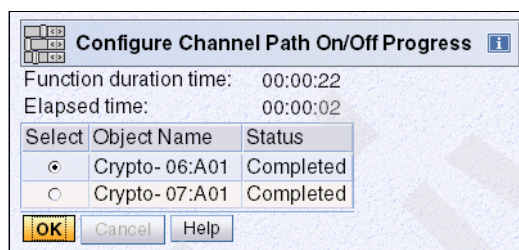

Figure 8-40 SE Crypto Config On/Off (Standby Completed)
- When your request to configure a channel path On/Off is completed, the confirmation dialog shown in Figure 8-40 is displayed. Click **OK**.